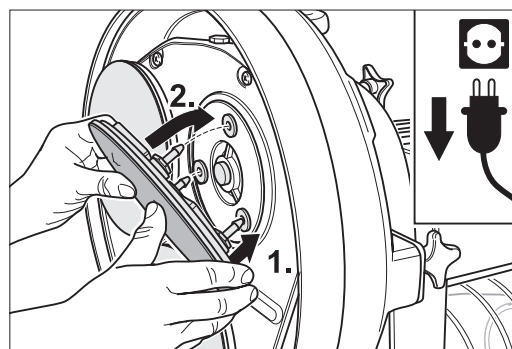

Fig. 4 Place one of the three bolts one of the jigs, fit others into their respective jigs, press the gear onto the bearing as far as it will go.
- 4 Mount the gear of your choice by placing one of the three locking bolts into the rubber jig and then fitting the other two bolts into their respective jigs. Then press gear onto the bearing as far as it will go (Fig. 4).